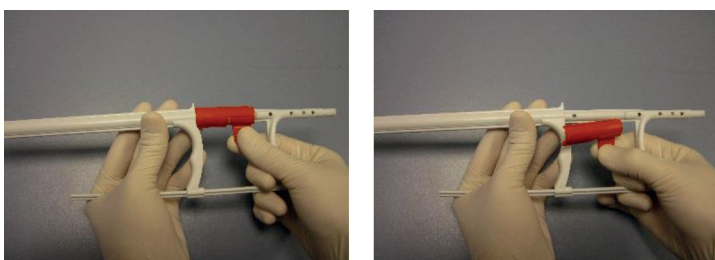

Figure 3 Handling of shipping lock
- The self-expanding stent is constrained in the space between the guide wire lumen and stent delivery sheath. Unintended stent movement during sheath retraction is restricted by the delivery device. The stent delivery sheath has a radiopaque zone at its distal end. The tip is radiopaque, too. Proximal and distal to the loaded stents are radiopaque markers. Prior to deployment the shipping lock (Figure 3) must be removed and discarded.